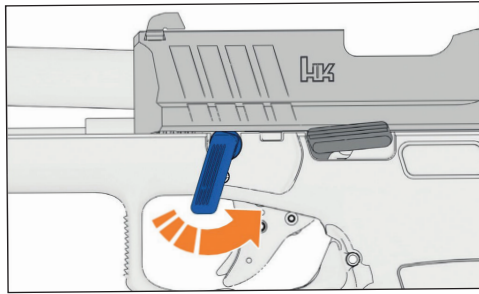

Figure 30 – Rotate the disassembly lever to the rear
6. Rotate the disassembly lever to the rear and release the slide forward (see Figure 30).